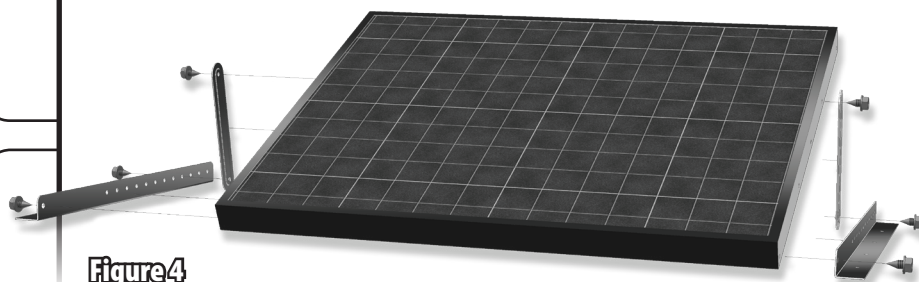

Figure 4
1. While on the ground, assemble the solar panel and mounting brackets. See figure 4.